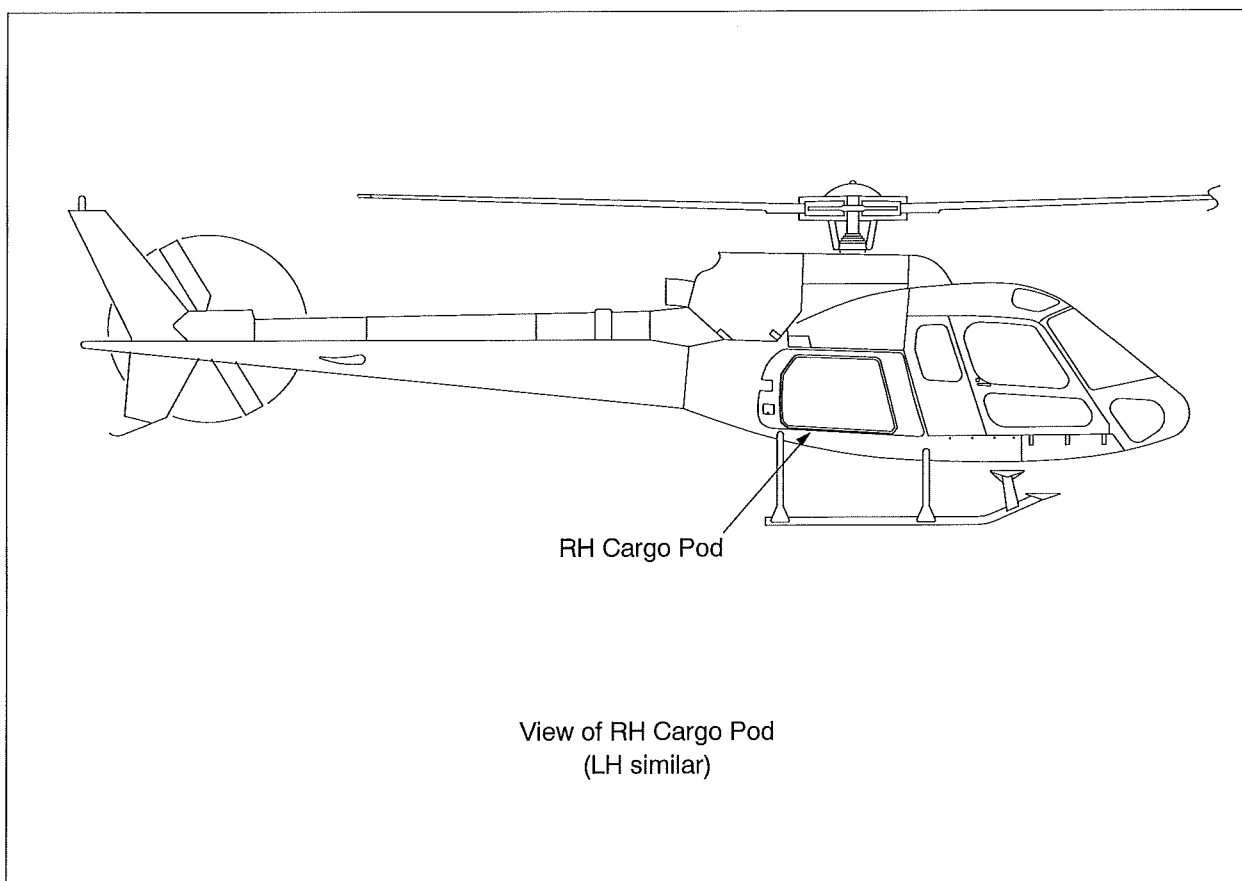

Figure 1 General Layout
- A. The subject Cargo Pods Installation comprises a LH, RH or both pods which provide an increase in cargo bay capacity. The forward opening door allows for easy cargo handling. The Cargo Pods also have a non-slip surface on the top and can support the weight of a person. Refer to Figure 1 for General Layout.